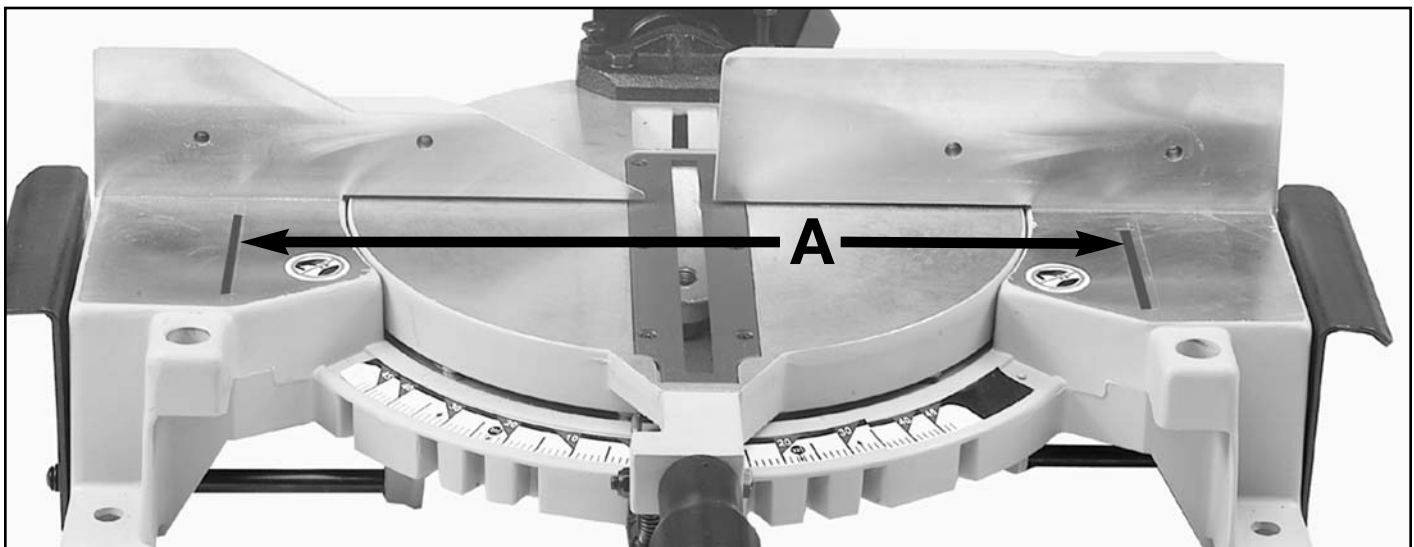

Fig. 9A
**WARNING: THE AREA INSIDE THE TWO RED LINES (A) FIG. 9A, ON THE TABLE IS DESIGNATED AS A HAZARD ZONE. NEVER PLACE YOUR HANDS INSIDE THIS AREA WHILE THE TOOL IS BEING OPERATED.**